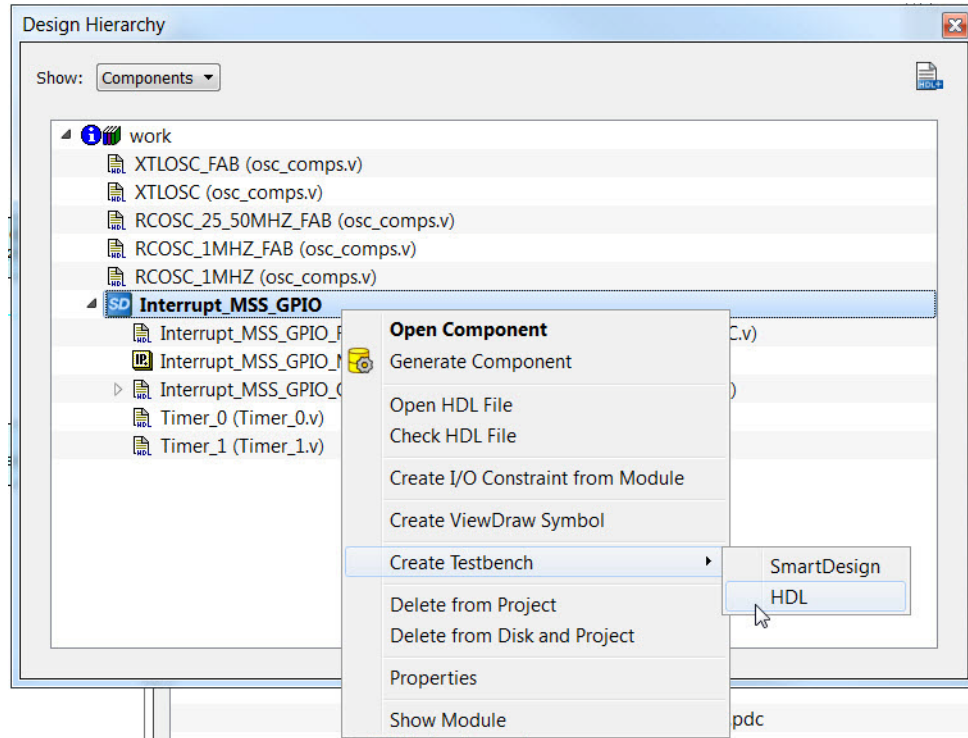

Figure 4-1 • Testbench Creation
1. In the Design Hierarchy window, right-click **Interrupt_MSS_GPIO** and choose **Create Testbench > HDL**. Enter **Interrupt_MSS_GPIO_tb** for the testbench name (Figure 4-1).